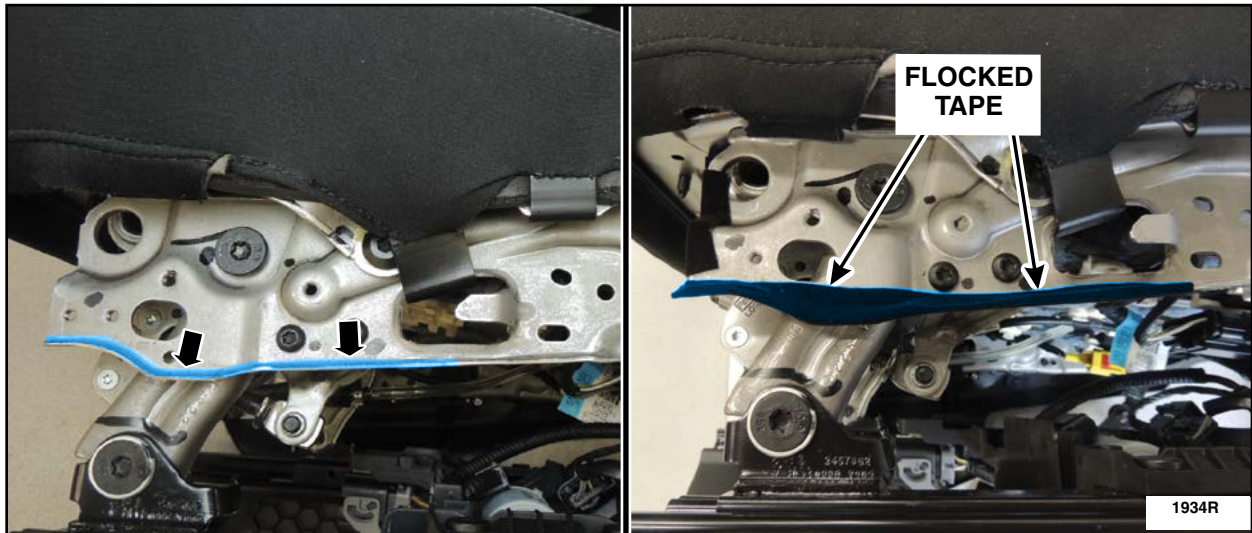

FIGURE 8
10. Using one 190 mm (7.5 in) strip of flocked tape, peel the backing off and apply it to the front half of the inboard seat frame. See Figure 8.